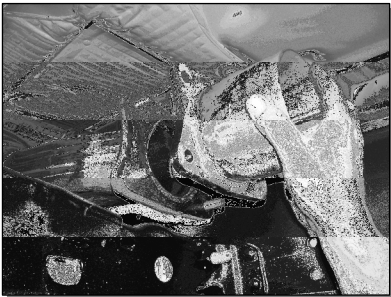

Figure 2
1. Place the **Gasket** provided over the studs located on the factory four bolt flange. Attach the **Slip Joint** to the four bolt flange using the existing hardware. Refer to Figure 2.